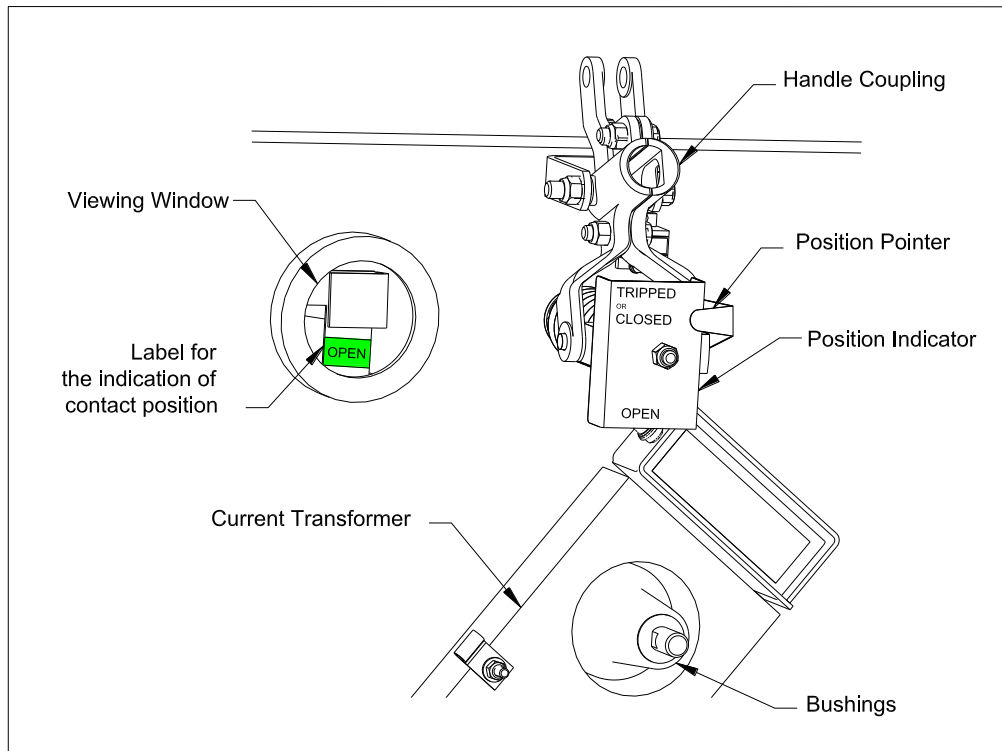

Fig. 5: Contact position through viewing window for RFI switch and position indication on the handle operator
5.3.4 Verify interrupter contact position (OPEN or CLOSED) by looking through the viewing window adjacent to the operating handle coupling (see fig. 5).